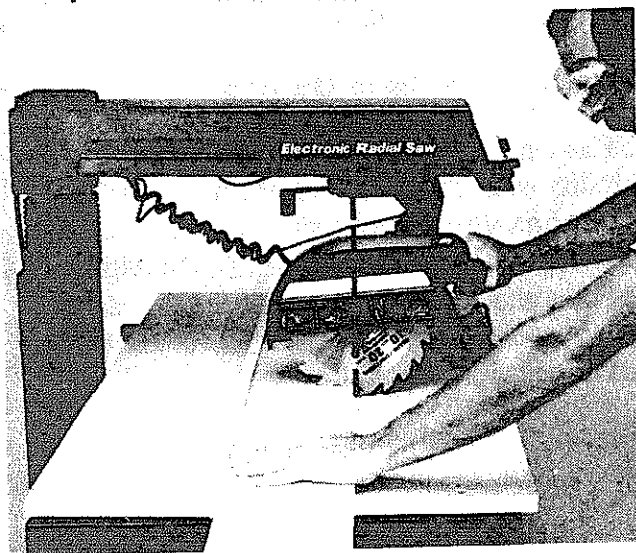

Fig. 147 Distance Needed to Complete Crosscut
13. Pull blade through fence and workpiece just enough to complete the cut. Fig 147.